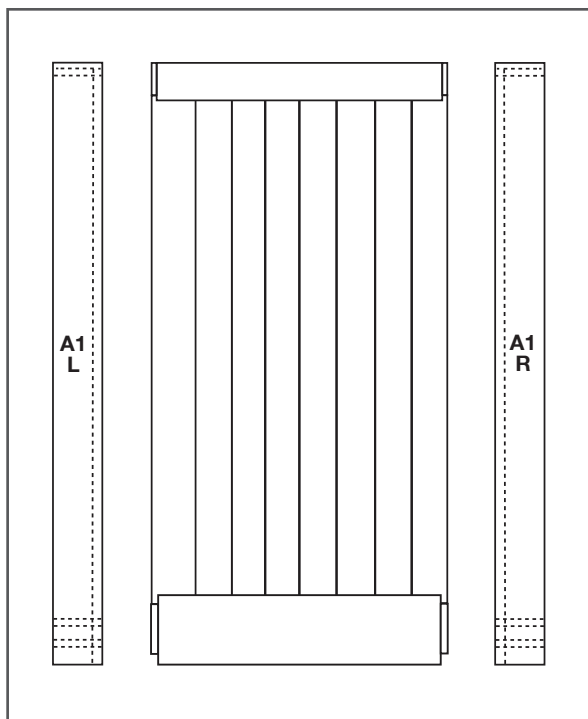

Figure 4
4. Place the left side style (A1 L) beside the assembled slats and rails. Slide to the right to cover the top and bottom rail tongues and the edge of the slat assembly. Tap the rails into place with a rubber mallet. Repeat with the right stile (A1 R) (Figure 4).